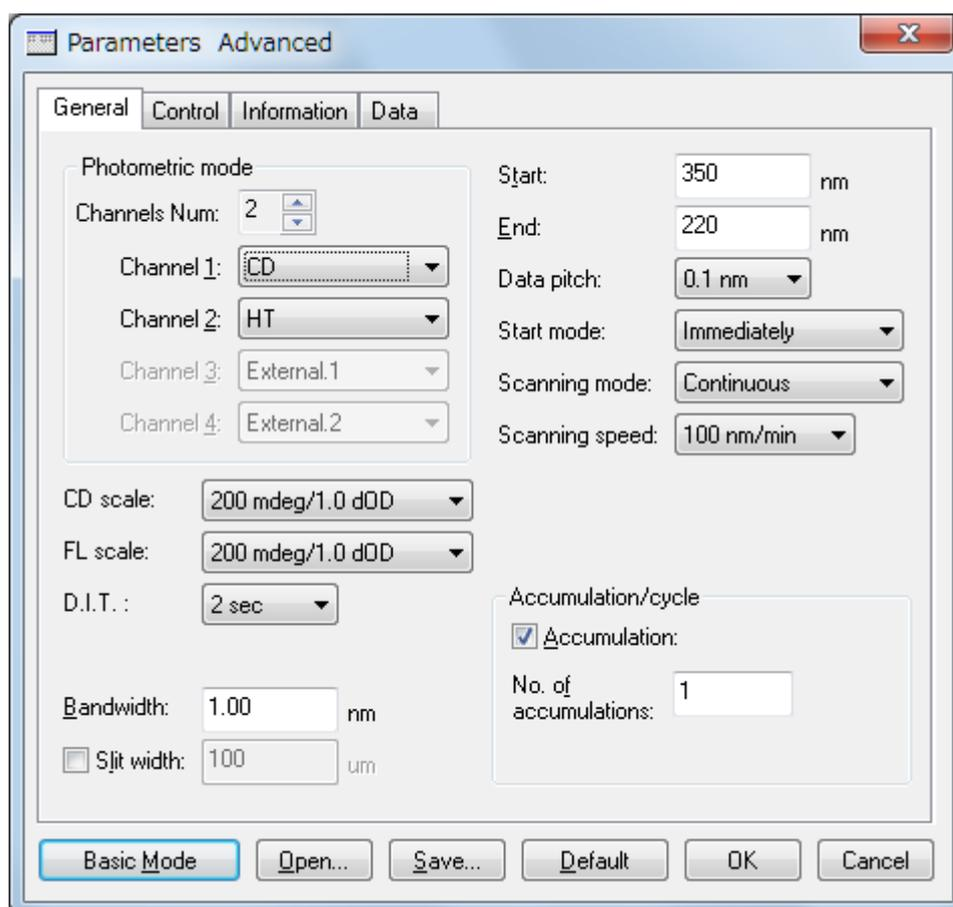

Figure 4.2 [General] tab in [Parameters] dialog box
- (1) Select [Parameters...] from the [Measure] menu (or click the  button) to display the dialog box in Fig. 4.2. The [Parameters] dialog box contains the [General], [Control], [Information], and [Data] tabs. The [General] tab is open by default in the [Parameters] dialog box. The page can be changed by clicking each tab at the top of the dialog box.
The following example describes how to specify the start wavelength. Click the [Start] text box to edit the start wavelength. When the cursor appears in the text box, values can be entered. Type the desired wavelength (in the example in Fig. 4.2, 350 nm) in the text box to set the start wavelength.